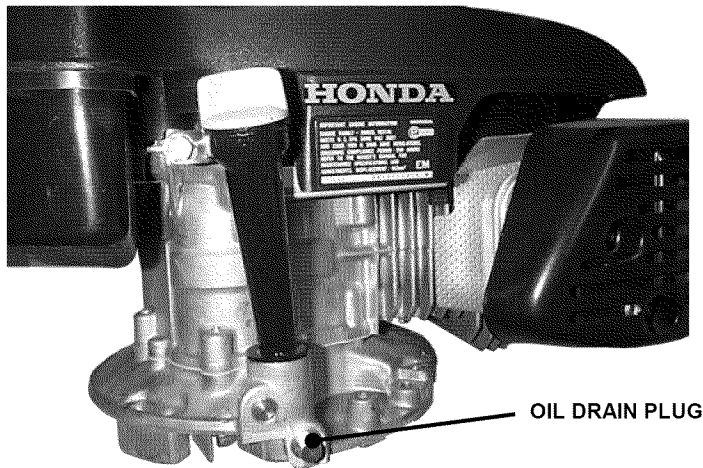

FIGURE 3.1
3. The Honda engine is equipped with an oil drain plug located above the deck on the right side of the engine. See Figure 3.1. Allow sufficient time for all oil to drain. Reinstall plug and tighten securely.